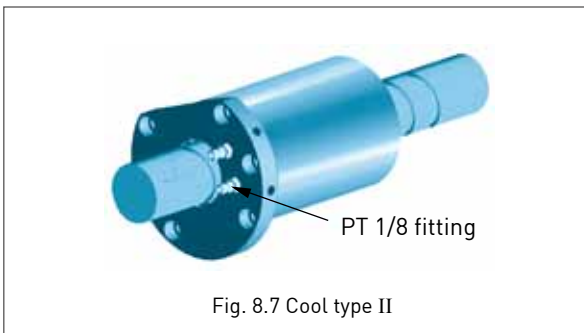

Fig. 8.7 Cool type II
• **Cool type II as shown in the Figure 8.7:**